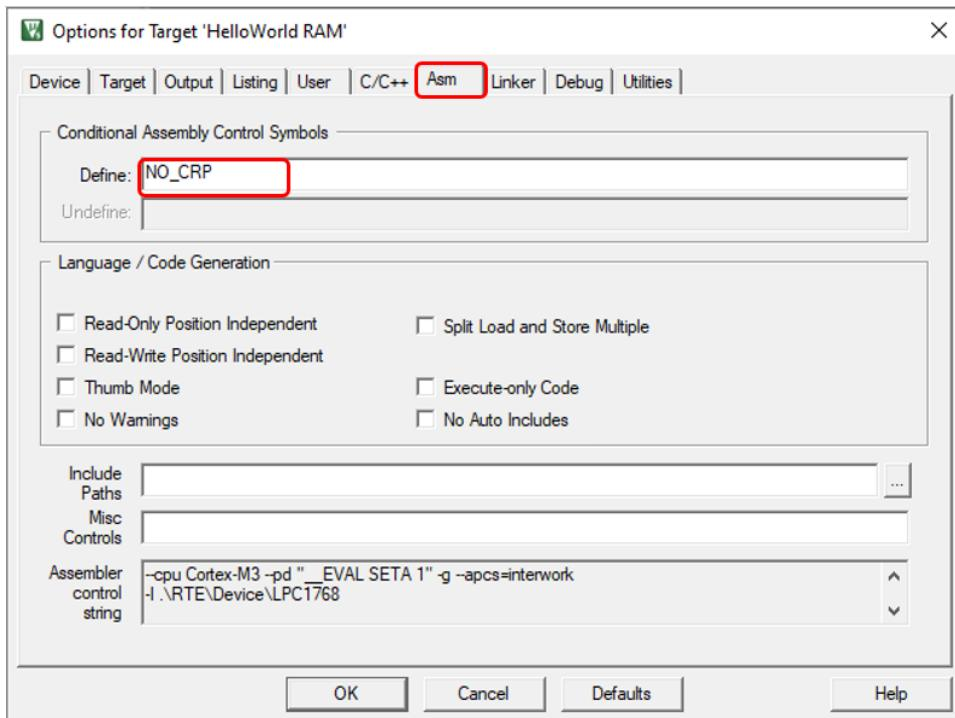

Figure 8.29: Keil IDE: RAM Target Asm Configuration.
4. Select the Asm tab and input NO_CRP in the Conditional Assembly Control Symbols section as shown in Figure 8.29.